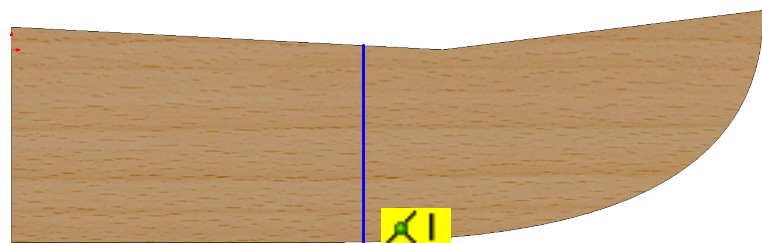

Fig. 19
- Step 3. Click **Line**  (L) on the Sketch toolbar.
- Step 4. Draw vertical line down sheet metal Wing, **Fig. 19**.